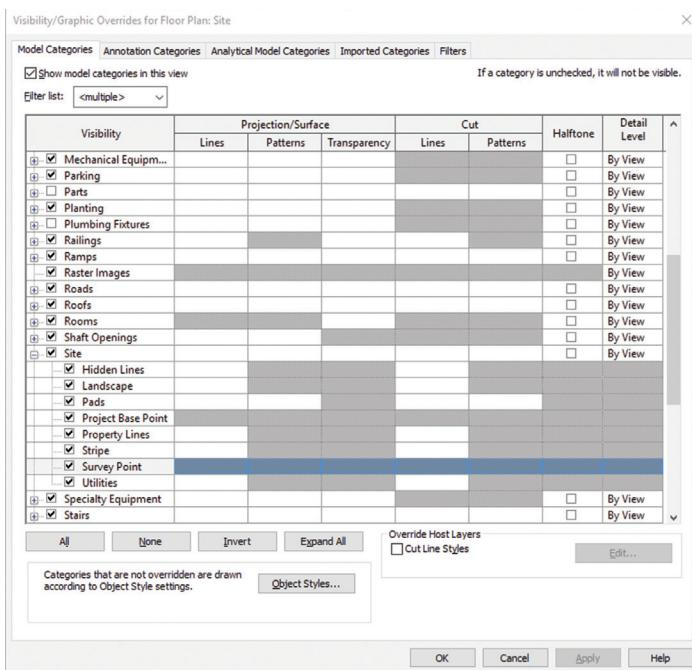

Figure 4
- Access the “Visibility/Graphics Overrides” for the Site Plan within the Revit Project (see Figure 4).